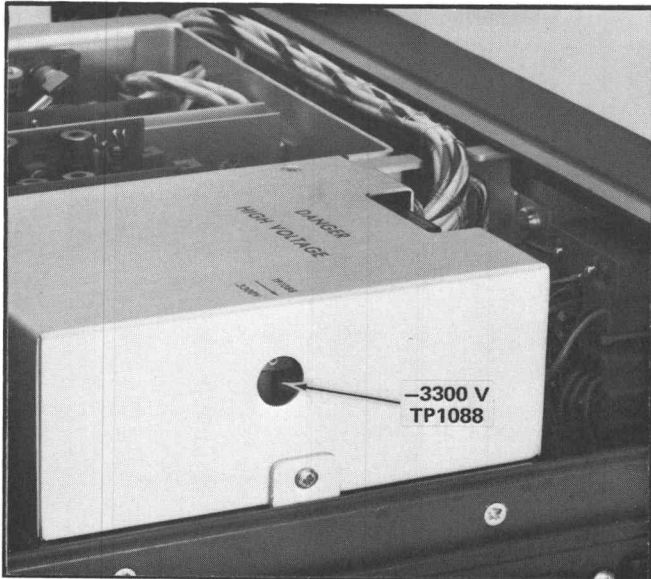

Fig. 5-4. High Voltage test point.
- a. Connect the DC Voltage between ground and the negative 3300 volt test point (see Fig. 5-4).